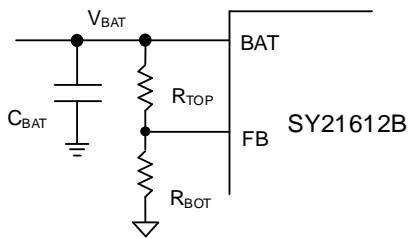

Figure3. Schematic of  $V_{BAT}$  under Sink Mode
Under sink mode, the VBUS pin is connected to the power input, the BAT pin is the power output and the FB pin is the feedback input. The output voltage  $V_{BAT}$  is programmed by external voltage divider (see Figure3) with the 1V internal voltage reference as given in equation (1).